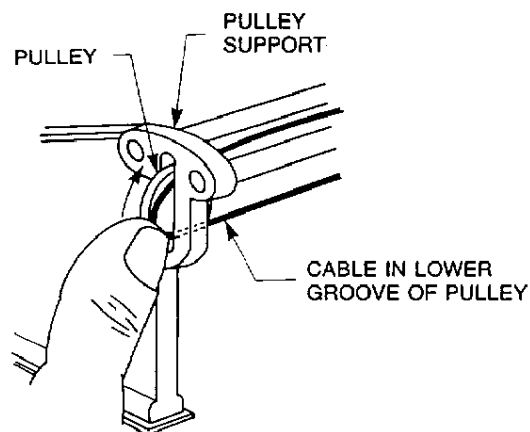

Figure 11. Guiding Cable Over Pully Lip
Step 8. Start cable into left pulley's groove as shown in Figure 11.
Note: It is important that you pull on the cable only enough to hold it in the position that is illustrated in Figure 11. This will protect the springs from being overextended.